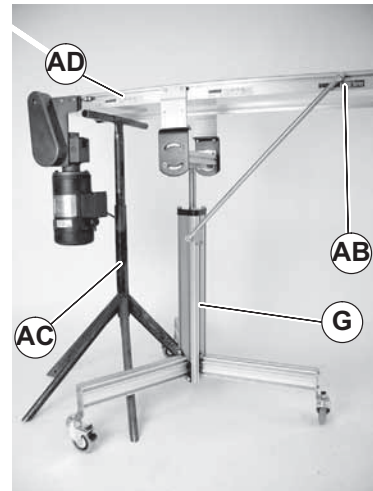

Figure 17
- Place temporary support stand (Figure 17, item AC) under conveyor (AD).
- If installed, remove diagonal brace hardware (Figure 17, item AB) from the conveyor. Allow brace to rest against the trileg post (G).